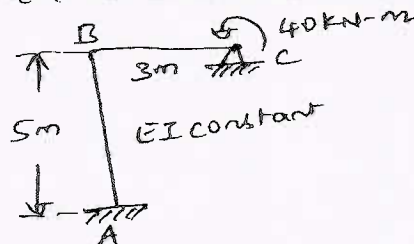

Fig.Q7
- 7 Analyze the frame shown in Fig.Q7 and sketch BMD. Use flexibility method.